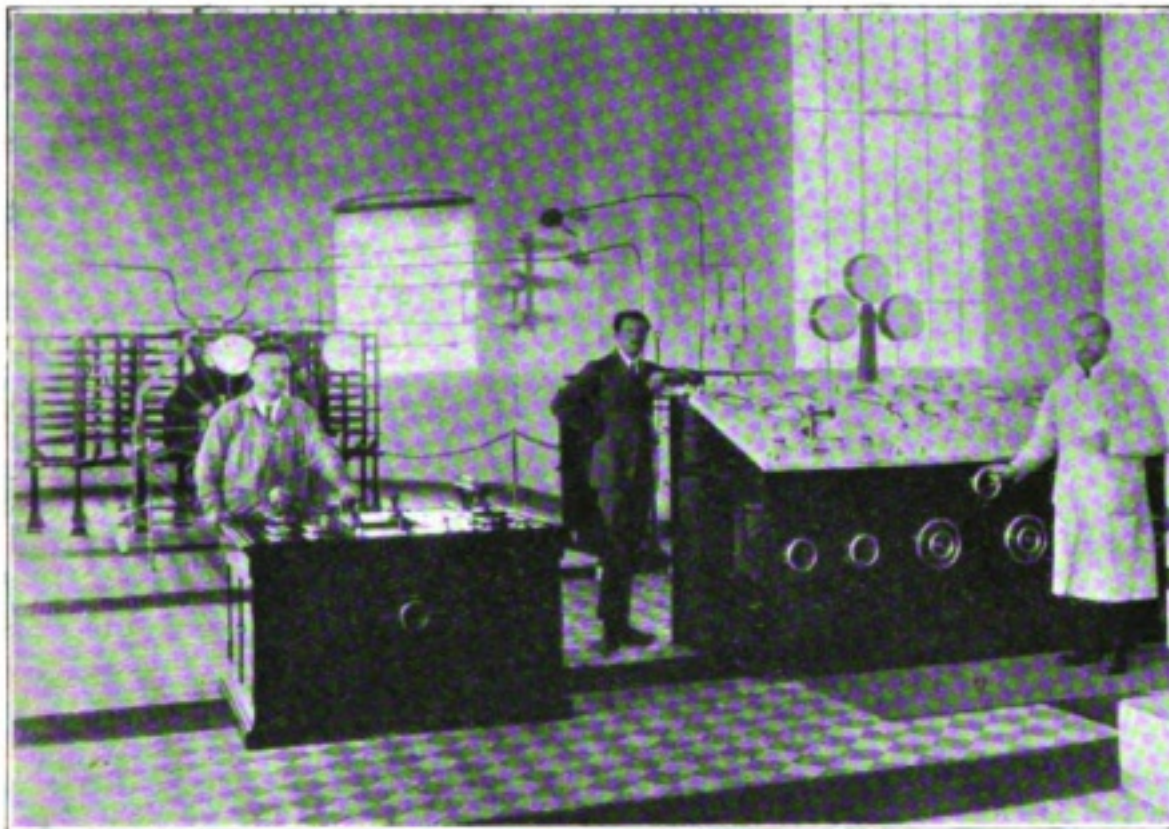

Fig. 3 Room from which the transmitter is controlled.
(L) Fig. 3. (R)
The suggested use of this type of circuit is the detection of the minute d.c. which appears at the terminals AB of Fig. 3(L) when receiving C.W. A circuit which would probably give good results when connected to the respective terminals of Fig. 3(L) is given in Fig. 3(R.) The success of circuits of this type depends largely